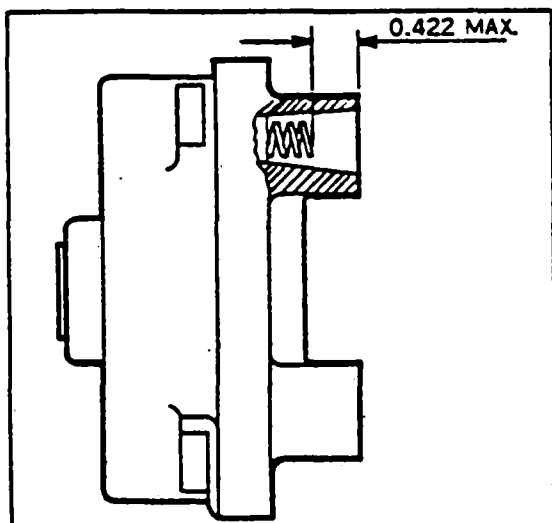

Figure 8-10. Contact Spring Inspection
- a. Inspect distributor block contact springs. Top of spring must not be more than 0.422 of an inch below top of tower as shown in Figure 8-10. If broken or corroded, they should be replaced.